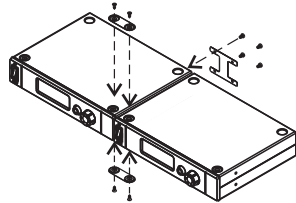

Fig. 9
(B) Screw top, bottom and back plates to joint two receivers, as Fig. 9